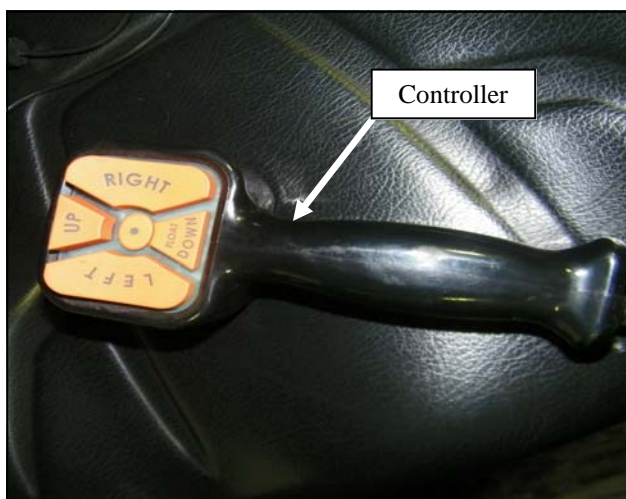

Fig 3.6
- 3.6 From there, route the 9 pin Controller plug just under the dash on the driver's side and cable tie to cross tube under the dash for easy access (NOTE: make sure wires do not interfere with operation of pedals). See Fig 3.6